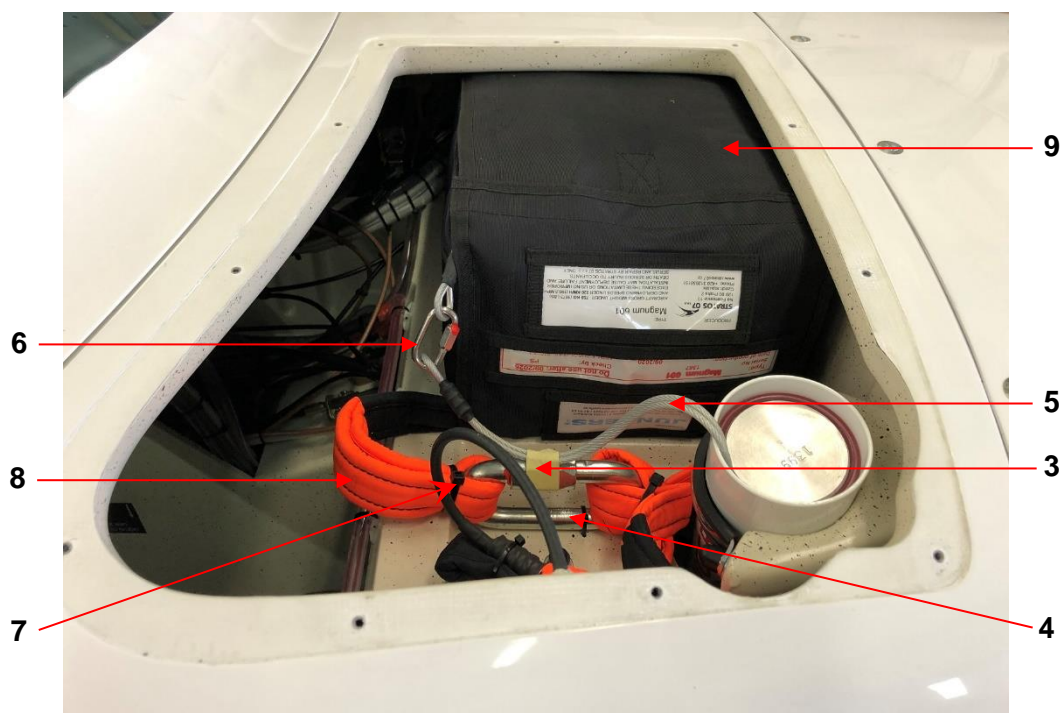

Fig. 3
3. Pull the parachute fabric container (9; Fig. 3) and parachute strap (11; Fig. 6) backward from the firewall.
5. If the parachute fabric container (9; Fig. 3) and parachute strap (11; Fig. 6) cannot be pulled enough from the firewall to install the parachute front spacer, continue with step 6, otherwise continue with step 25.
6. Remove the paper tape (3; Fig. 3) and release the rocket rope (5).
7. Release the rocket snap hook (6) using 8 mm wrench and remove the rocket rope (5) from the snap hook (6). Release the parachute snap hook (4) using 22 mm wrench, remove the cable tie (7) and remove the parachute strap (8) from the snap hook (4).
9. Remove the parachute fabric container (9; Fig. 3) from the aircraft.
22. Insert the rocket rope (5; Fig. 3) into the rocket snap hook (6), apply Loctite 243 on the thread of the rocket snap hook (6) and tighten the nut using 8 mm wrench.
23. Insert the parachute strap (8; Fig. 3) into the parachute snap hook (4), secure the parachute strap by a cable tie (7), apply Loctite 243 on the thread of the parachute snap hook (4) and tighten the nut using 22 mm wrench.